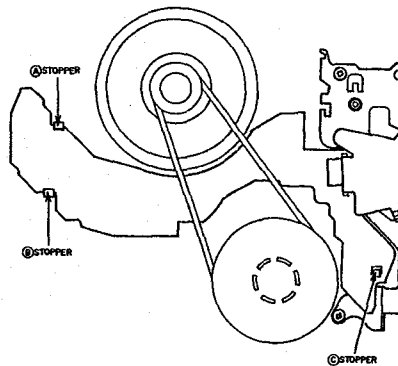

Fig. 3-6
- 3) Release the (A), (B) and (C) stoppers as shown in Fig. 3-6. Then remove the SENSOR PCB.